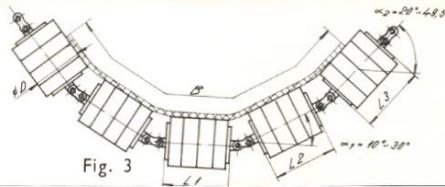

Fig. 3
- **D5g** according to fig.3 – besides the belt propping and aligning, they are used as shock absorbers in the loading areas of carrier side